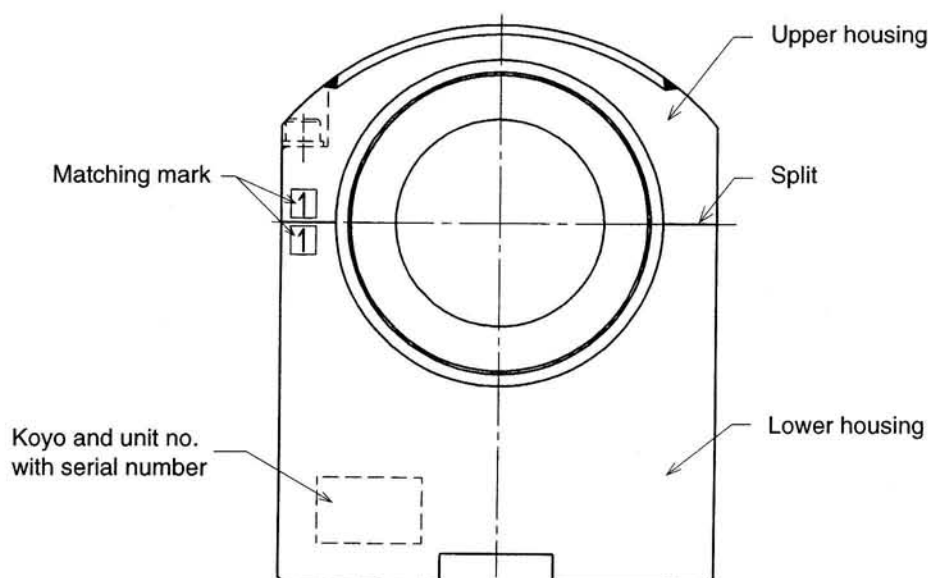

Fig. 3 Serial Number and Matching Mark on Housing
3. Serial numbers and matching mark on the housing and labyrinth ring at positions is shown in Figs. 3 and 4.